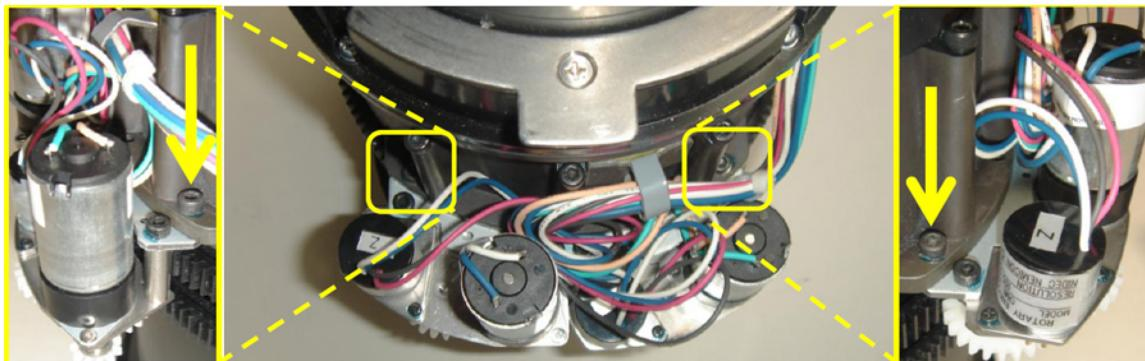

Figure 3-4 Motor Set Removal
2. Remove the motor set from the lens by removing the screws in **Figure 3-4**.